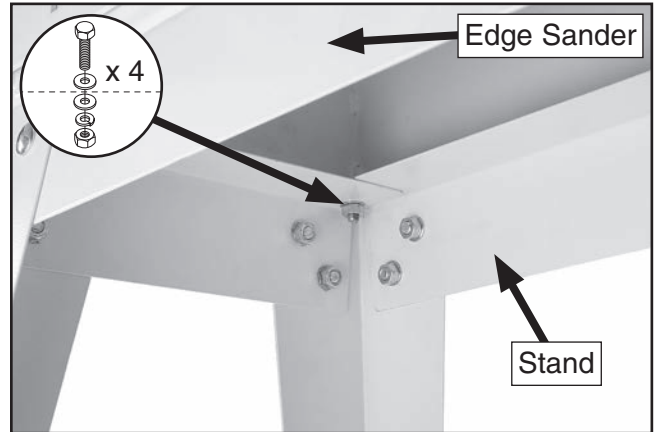

Figure 18. Edge sander secured to stand.
9. Secure edge sander to stand with (4) M6-1 x 20 hex bolts, (8) 6mm fender washers, (4) 6mm lock washers, and (4) M6-1 hex nuts (see **Figure 18**).